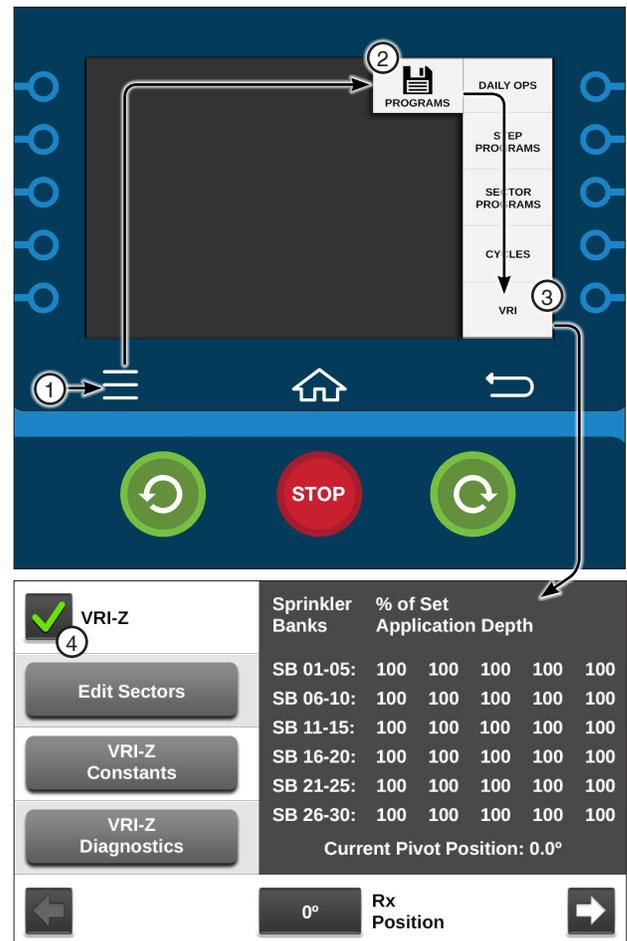

Figure 163-1 1. Menu 2. Programs 3. VRI 4. VRI-Z Checkbox
1. Push **Menu**, **Programs** and **VRI** to display the VRI-Z screen. Refer to Figure 163-1.